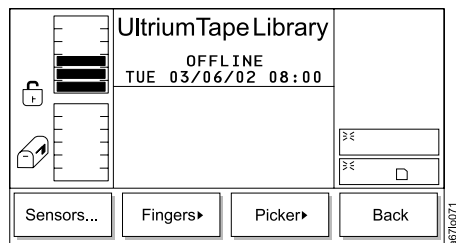

Figure 271. Diags Submenu
4. Press the button below the **Diags** softkey. The Diags Submenu displays (see Figure 271).